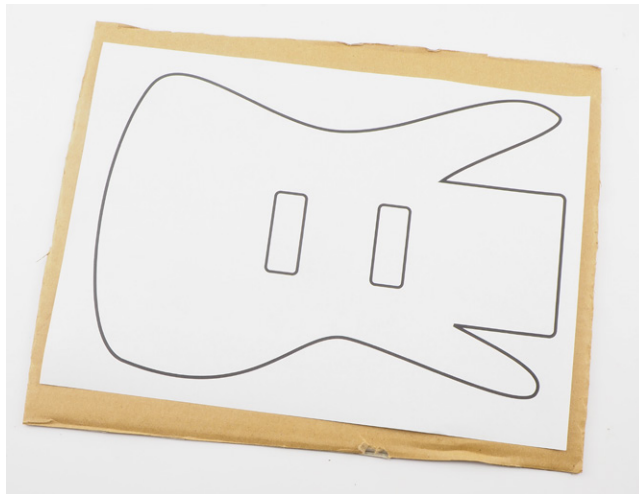

Figure 3-3: Gluing the paper template to the cardboard
5. Glue your guitar drawing to your piece of cardboard, as shown in Figure 3-3.